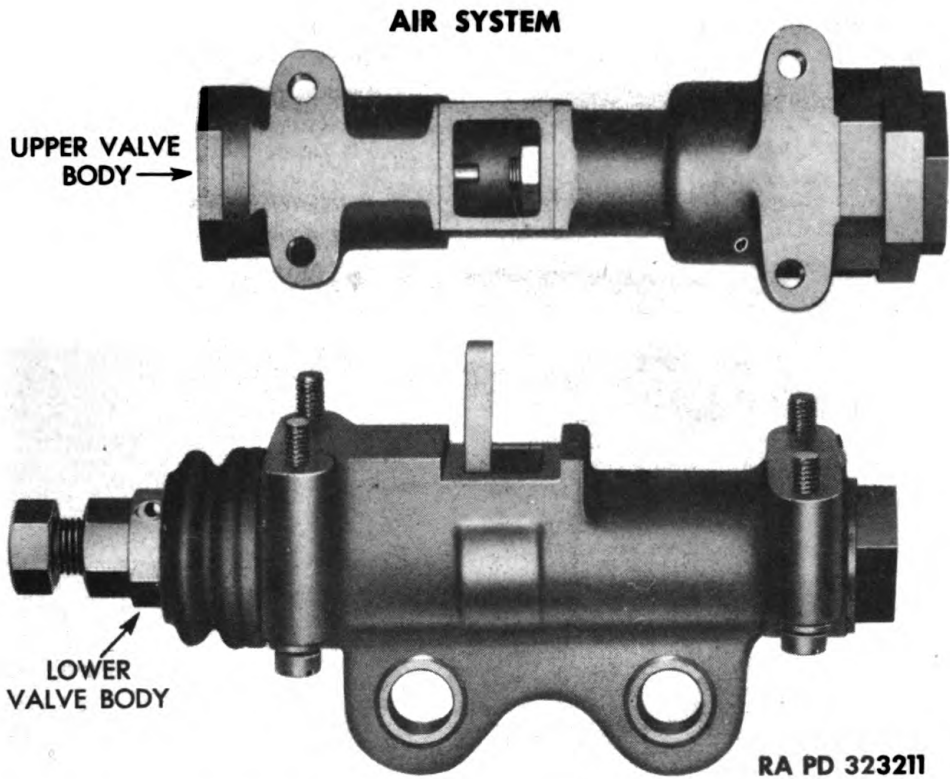

Figure 217 — Upper Valve Body Separated from Lower Valve Body
(2) **SEPARATE UPPER VALVE BODY FROM LOWER VALVE BODY** (fig. 217). Remove four machine screws and lock washers attaching upper body to lower body.
(7) **INSTALL UPPER BODY TO LOWER BODY** (fig. 217). Place two bodies together with operating finger of lower body extending into center opening of upper body. The outlet plug must be on the same side of valve as operating shaft. Install four machine screws and lock washers attaching bodies together and tighten.